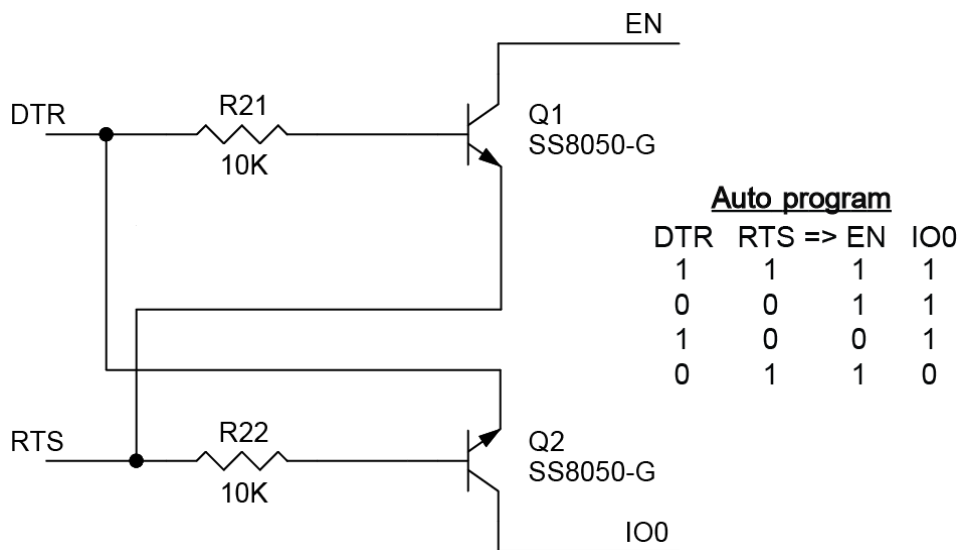

Figure 1: Typical ESP32 DevKit Reset/Programming Circuit
Unfortunately, it's not a straight path from having these signals available and using them as desired. As DTR & RTS are driven both HI and LO by the CP2012, they can not be tied directly to the **EN** and **IO_0** pins without sacrificing functionality of the device. **EN** is considered an “Open Drain” signal which means many devices might assert this signal (LO), including the ESP32 itself. **IO_0** is a generally used GPIO signal, and would be a wasted pin if it was dedicated to only being used for determining boot mode. Hence the circuit of **Figure 1**.
ESP32 DevKits commonly implement the circuit of **Figure 1** to control the **EN** and **IO_0** signals. Notice from the truth table that there is no condition where any combination of input signals can cause both **EN** & **IO_0** to be asserted (LO) simultaneously. It is possible to cause *EITHER* **EN** or **IO_0** to be asserted LO, but *NOT BOTH*. Another nuance of the truth table is that 0=LO (driven), 1=Hi-Z (not driven) by the circuit. When observed with an oscilloscope, the “1” state will be seen as a HI because of pull-up resistors on those signals outside of this circuit, however the circuit of **Figure 1** will not be influencing the signals. Configuring the circuit in this manner allows **EN** to be used as intended, and except for boot, **IO_0** may be used by the application.